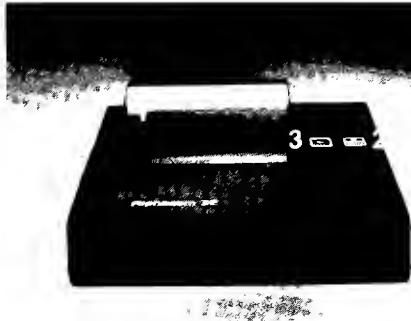

Figure 1
**Figure 1** illustrates the major components of the printer. The paper cover (1) is hinged to permit a roll of paper to be loaded and positioned.